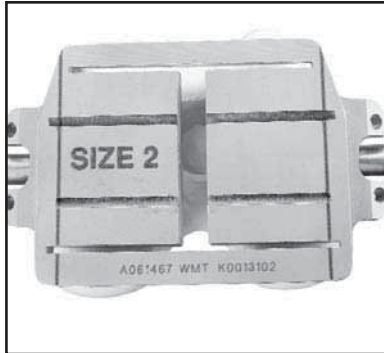

FIGURE 11 |
**NOTE |** The femoral resection block can be used to double check sizing. | **FIGURE 11**